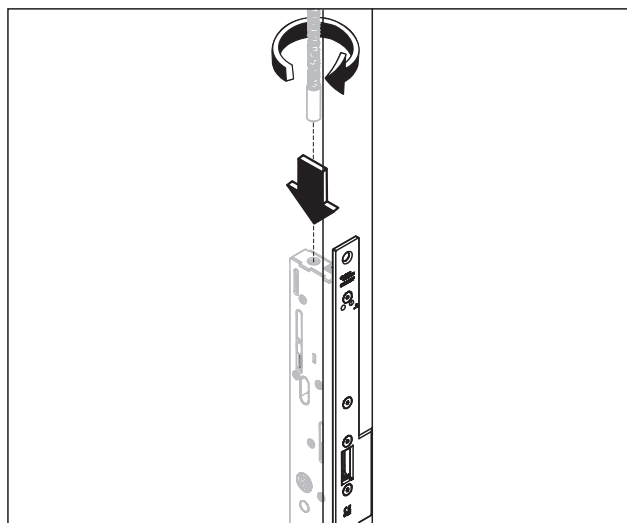

Fig. 47 Screw in upper espagnolette bolt
9. Insert the upper espagnolette bolt into the passive door leaf and screw it completely into the lock by hand (Fig. 47) so that the espagnolette bolt can still be adjusted later.